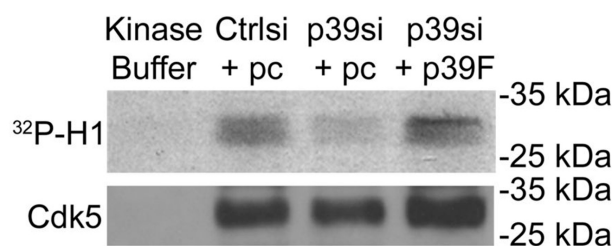

Figure 4. Detection of Cdk5 kinase activity and protein levels in immunoprecipitates.
14. Expose the membrane to film or phosphorscreen at -80 °C (see example in Figure 4).
12. Expose the membrane to film (see example in Figure 4).